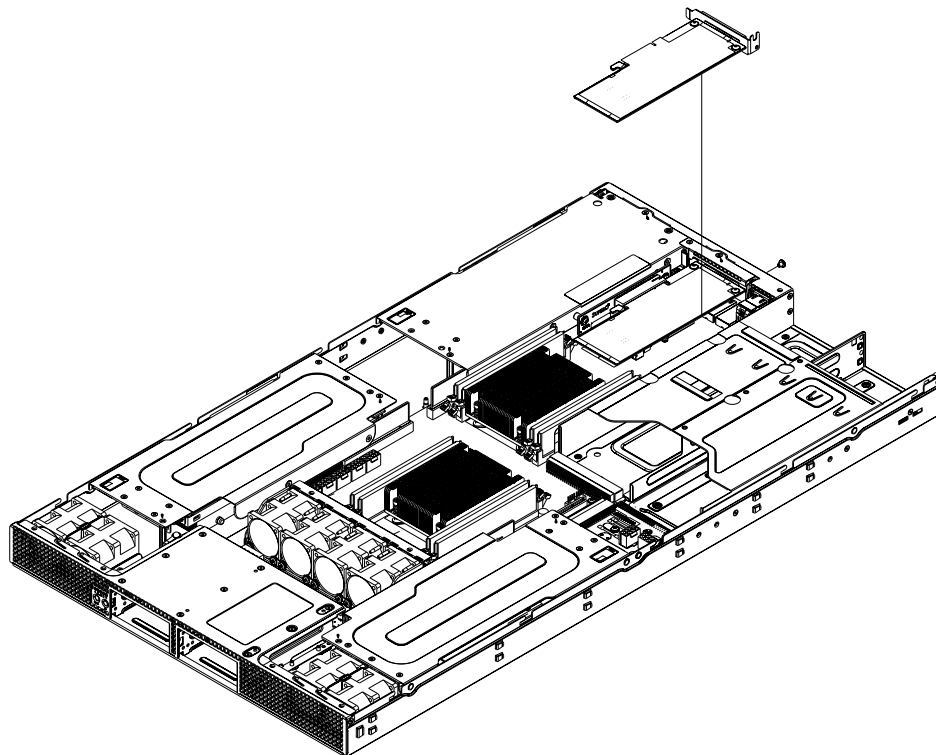

Figure 6-9 Low-profile PCIe Card Remove/Replace Example
6. Secure the rear bracket in the slot with the screw removed in step 3 and connect cables to the add-on card as necessary. See Figure 6-9 on page 58 for an example.